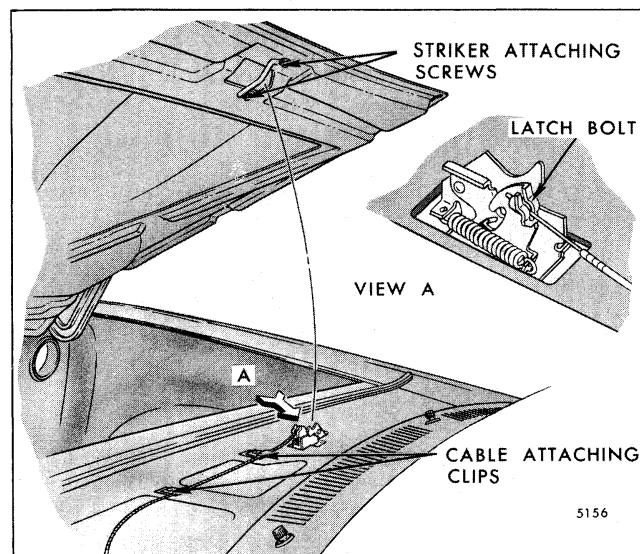
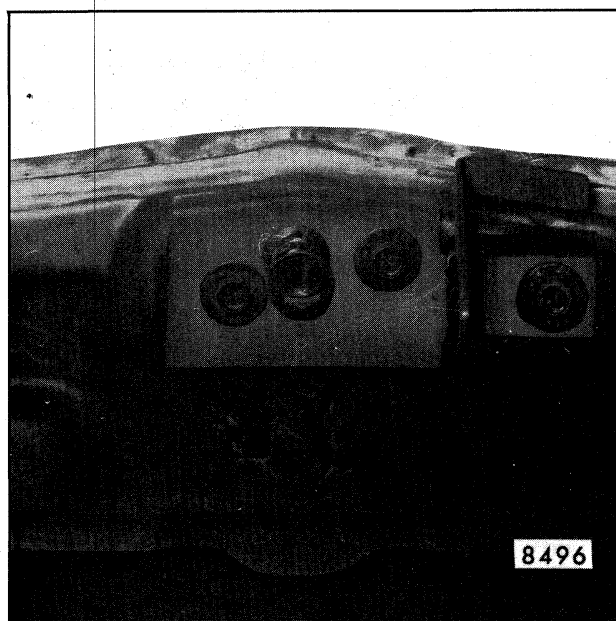

Fig. 4-19-Hood Latch and Hood Latch Striker - "H-11, 15 and 77"
Fig. 4-20-Hood Latch Striker - "H-07,27"
1. Raise hood and remove striker attaching screws. Remove striker (Fig. 4-19 for all "H" less "07,-27", Fig. 4-20 for "H-07, 27" style).
2. With hood open, remove clips securing hood latch release cable to shroud upper panel (Fig. 4-19).
1. On inside of body, insert end of cable assembly through hole in side shroud panel and route cable through plenum and up over top of shroud panel (Figs. 4-19 and 4-23).